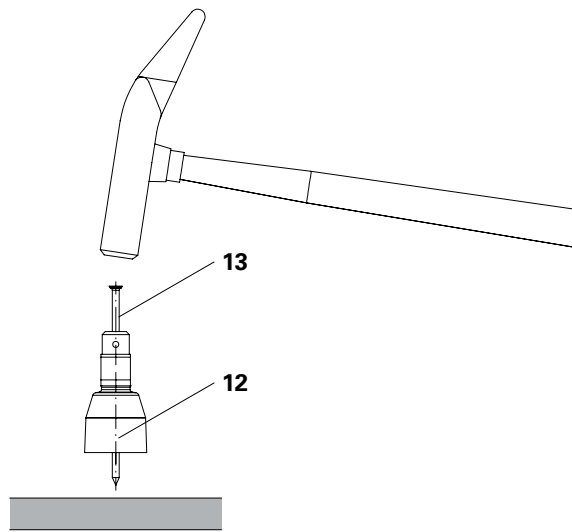

Fig. A3.04
1. Insert wire nail Ø 4.6 x 130 (13) into the Threaded Cone M24/40 (12).
2. Position the Threaded Cone M24/40 (12) on the formlining and completely hammer in the wire nail Ø 4.6 x 130 (13). (Fig. A3.04)